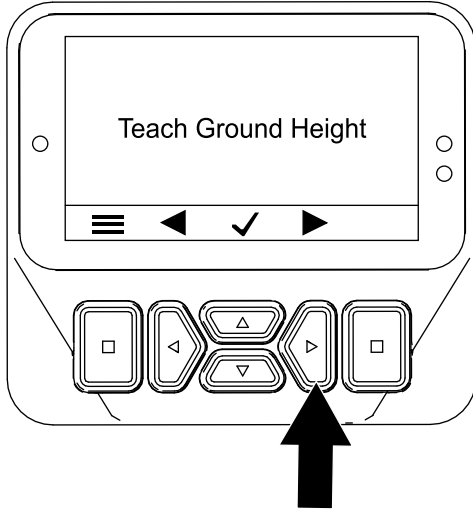

Figure 46
- Press the right button twice to display the Calibrating the Tine Ground Height screen (Figure 46).